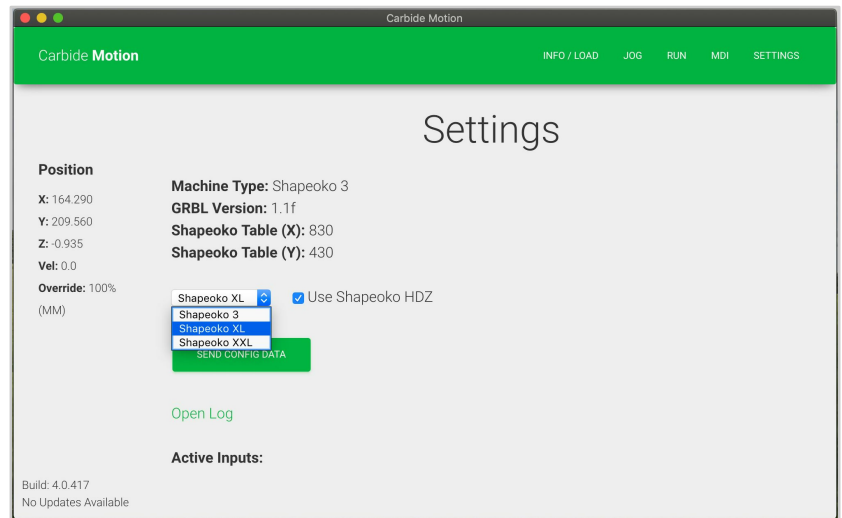

Figure 20
6. Select your Shapeoko type from the dropdown list, then tick the **Use Shapeoko HDZ** checkbox. See *Figure 20*.